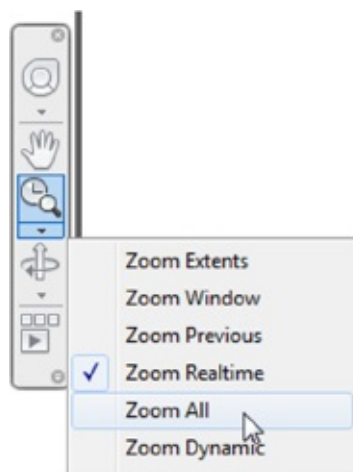

FIGURE 1.28 The Zoom All option gives you an overall view of your drawing.
5. Click Zoom All from the Zoom flyout of the Navigation bar to get an overall view of the drawing (see Figure 1.28). You can also type **Z** ↵ **A** ↵.